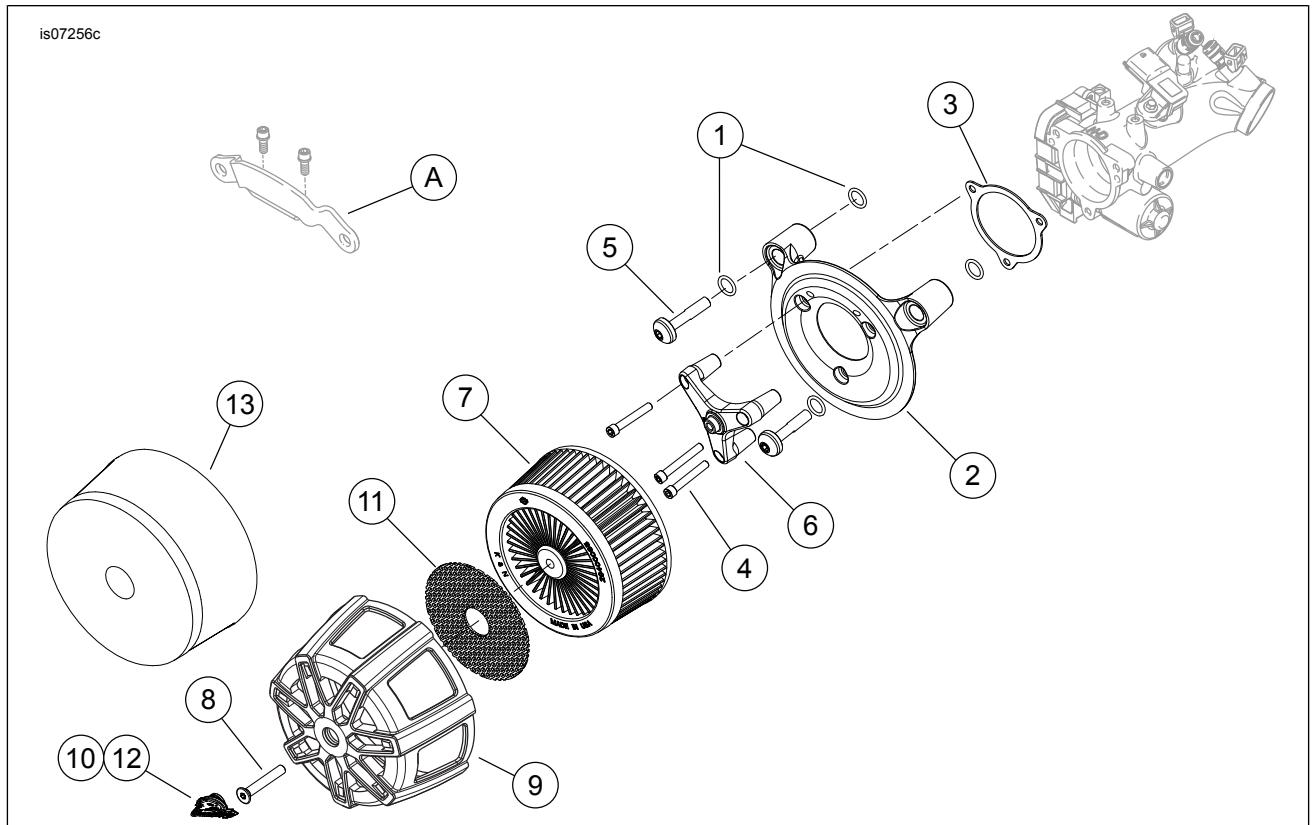

Figure 1. Service Parts: Screamin' Eagle Performance Air Cleaner Kit
See Figure 1 and Table 1.
4. See Figure 1 and Table 1. Remove and discard support induction module bracket (A).
1. See Figure 1. Install two O-rings (1) from kit in grooves around breather screw holes on induction module side of backplate assembly (2). Install two O-rings (1) from kit in grooves in underside of head of breather screws (5).
2. Peel the protective strip off the gasket (3) and place the adhesive side onto the backplate. Align to the equally spaced screw holes, and position the gasket carefully before firmly pressing the gasket into place.
3. Insert new breather screws (5) through the backplate.
6. Install air cleaner mounting screws (4) through the mounting bracket (6) and into the backplate (2) until the screw threads are captured in induction module. Do not tighten completely at this time.
7. Alternately tighten two breather screws (5) to 13.6–16.3 N·m (120–144 **in-lbs**).
8. Tighten three air cleaner screws (4) to 6.2–6.8 N·m (55–60 **in-lbs**).
1. See Figure 1. Install the air cleaner element (7) and cover (9). Before tightening the center screw, align the cover using the medallion for best appearance, then tighten center screw to 4.1–6.8 N·m (36–60 in-lbs).